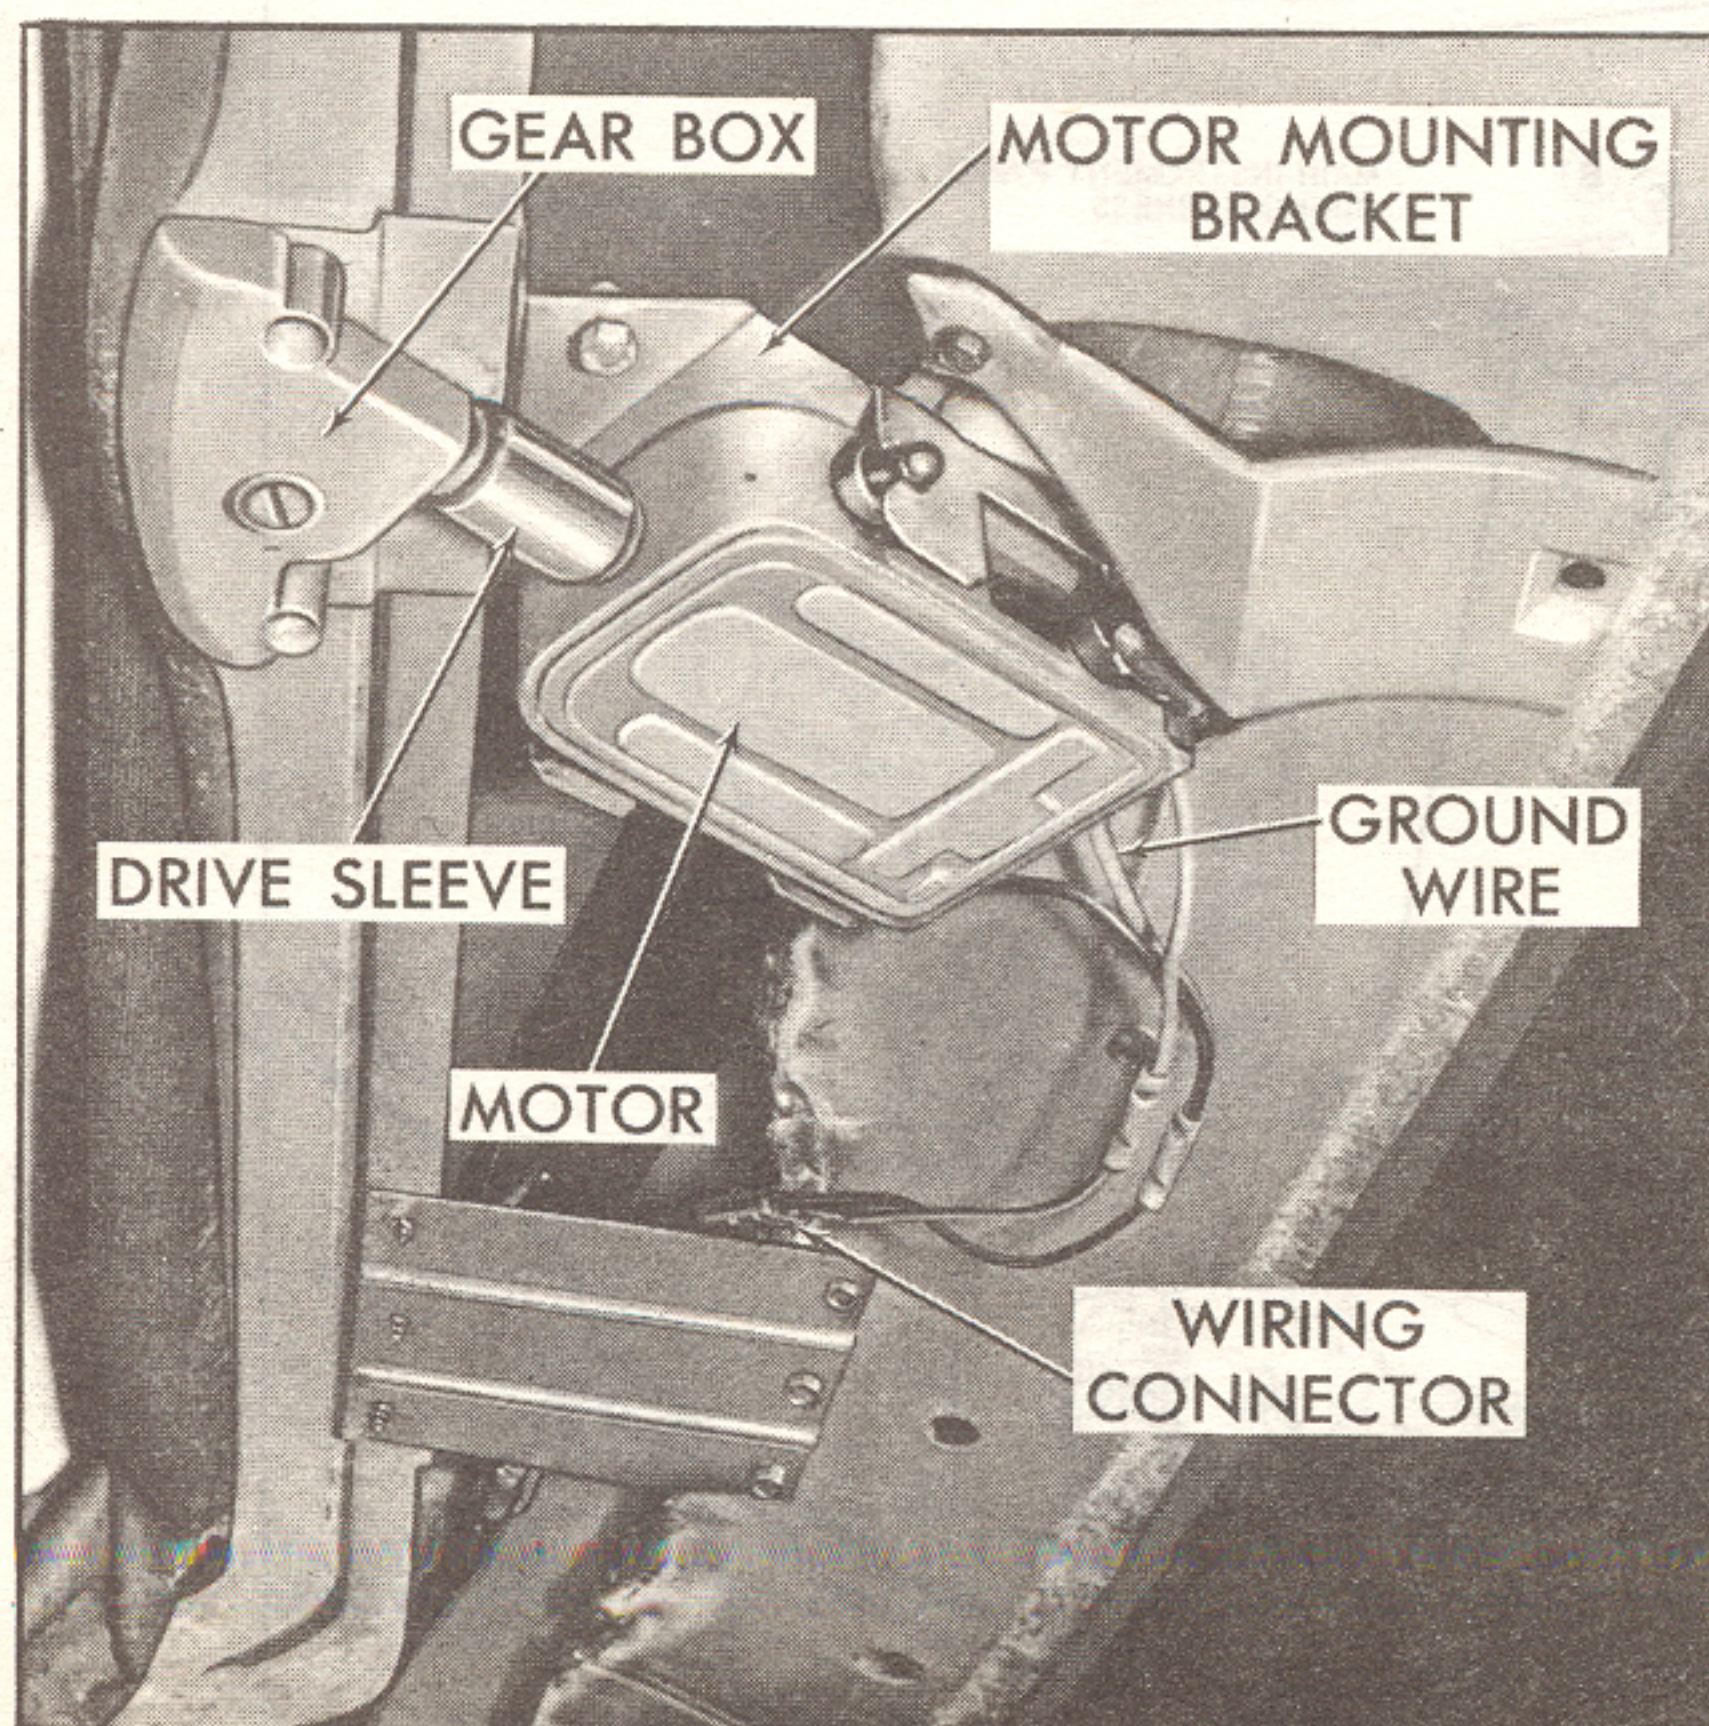
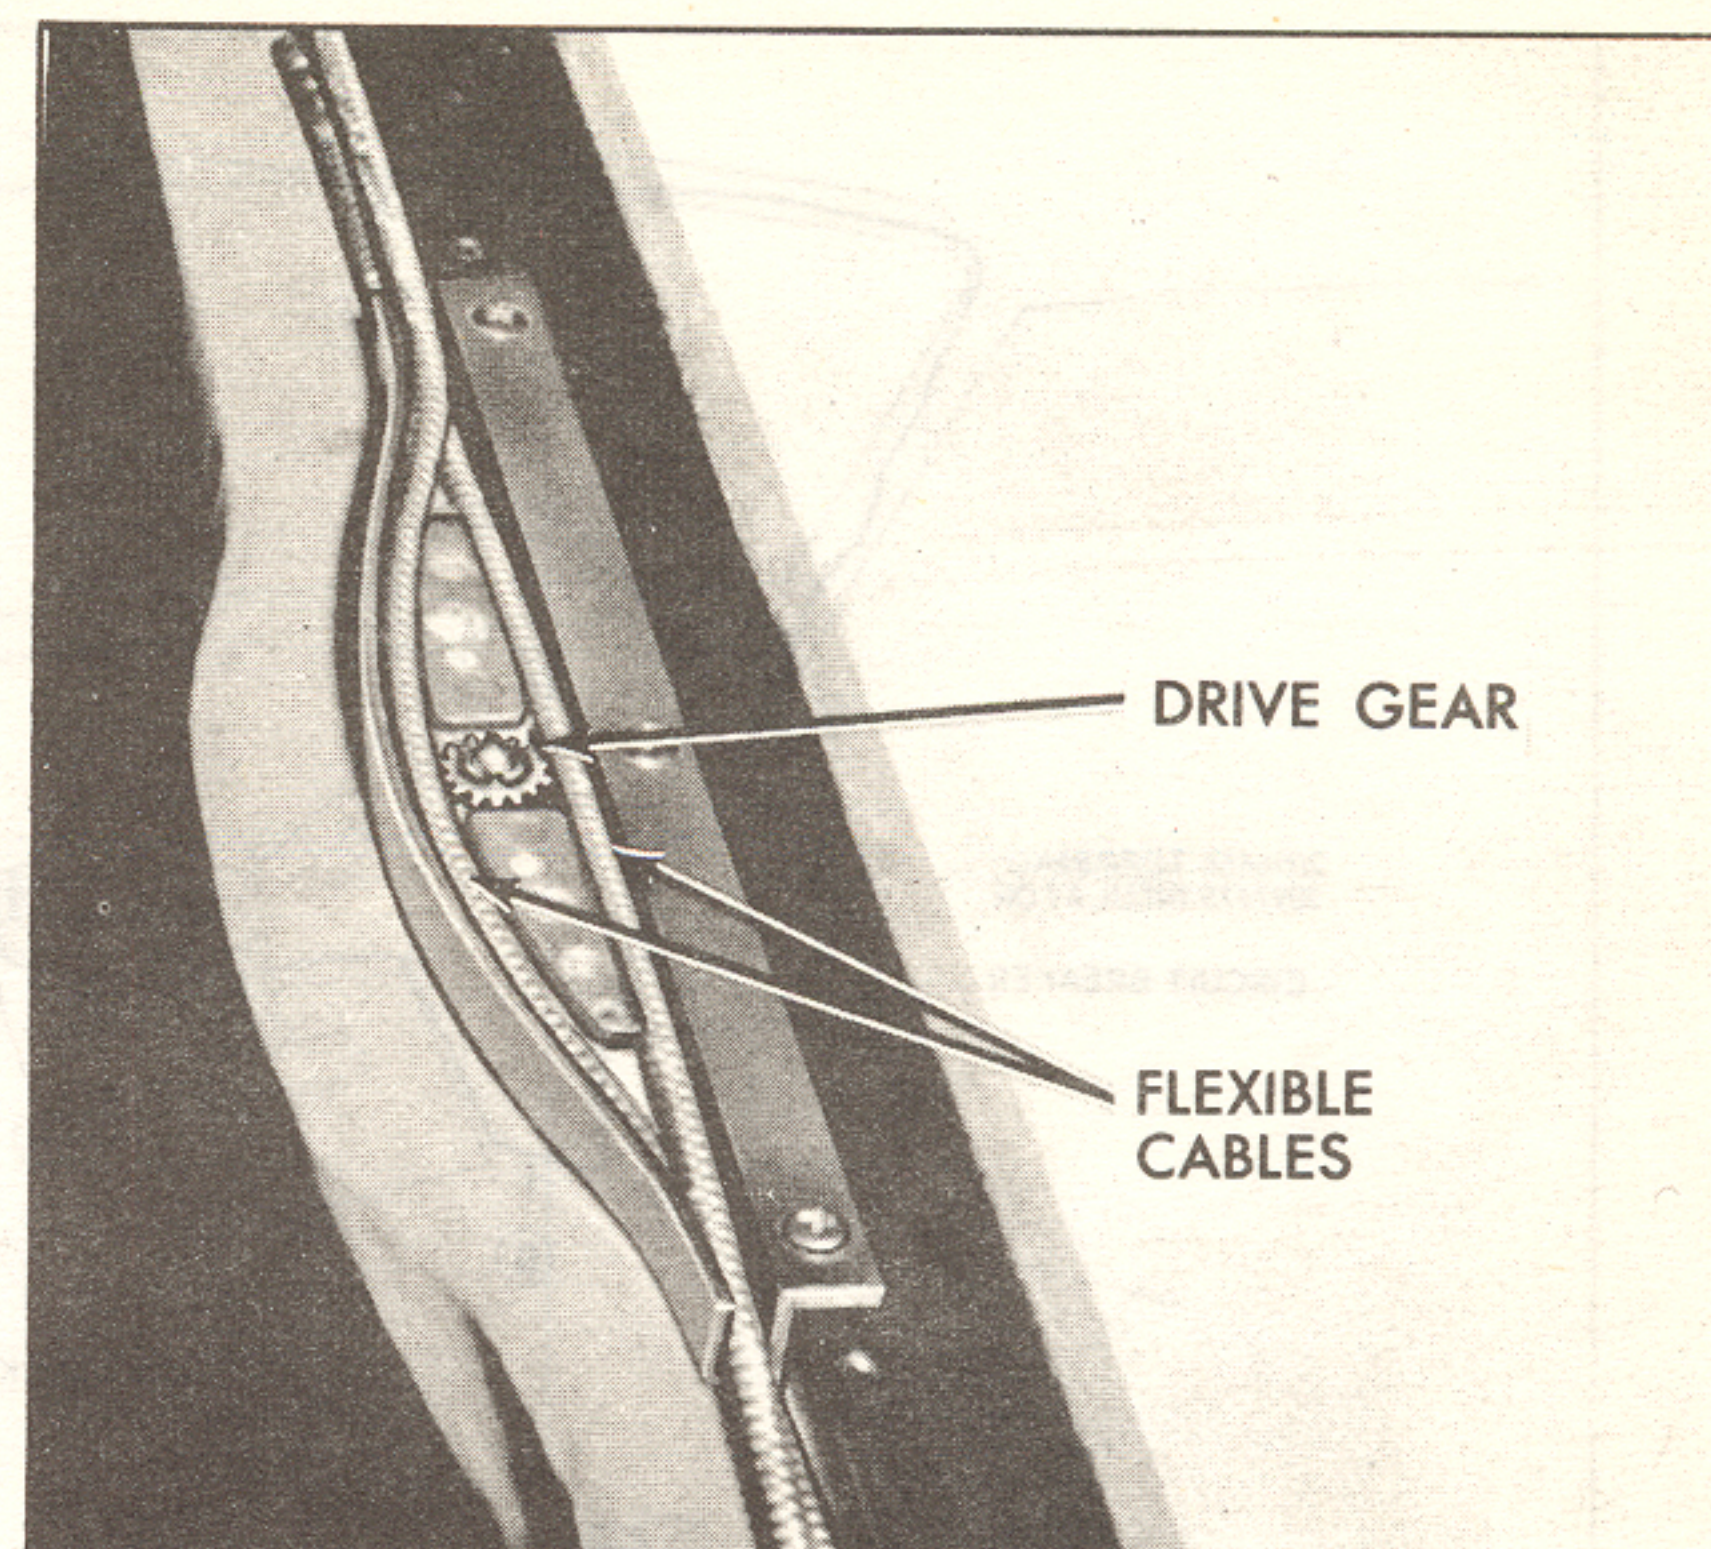

Fig. 6. Motor and Auxiliary Drive Unit Location
Fig. 7. Drive Gear and Cables
The Sunroof is actuated by a two-way electric motor mounted near the center of the windshield header area, Fig. 6. The motor turns a sleeve that drives an auxiliary unit with a gear on the output shaft. This gear, in turn, drives two flexible gear cables that are attached to the roof panel and control its movement, Fig. 7.
4. Carefully pull headlining from front roof inner panel at top of windshield area sufficiently to gain access to Sunroof motor and drive sleeve, Fig. 6.